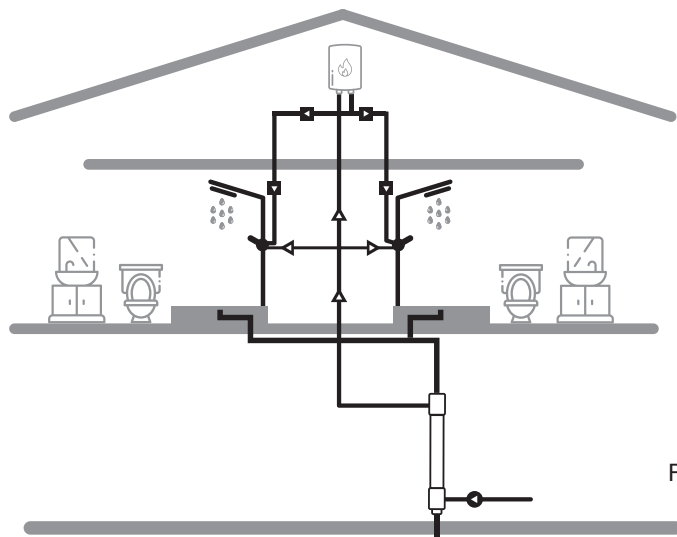

Fig. 5
5. Fig. 5 shows the SHRU serving two showers and being served by the waste water from both. The example is a System A configuration.